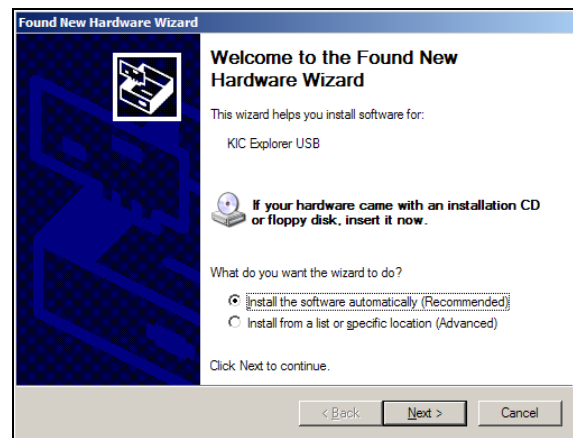

Figure 10: Windows Found New Hardware Wizard
3. Whether you connect the *KIC Explorer* or *KIC Explorer Base Station*, Windows will recognize the USB device and the “Found New Hardware Wizard” will appear. Select the “Install the software automatically (recommended)” option then select the “Next” button. See Figure 10.